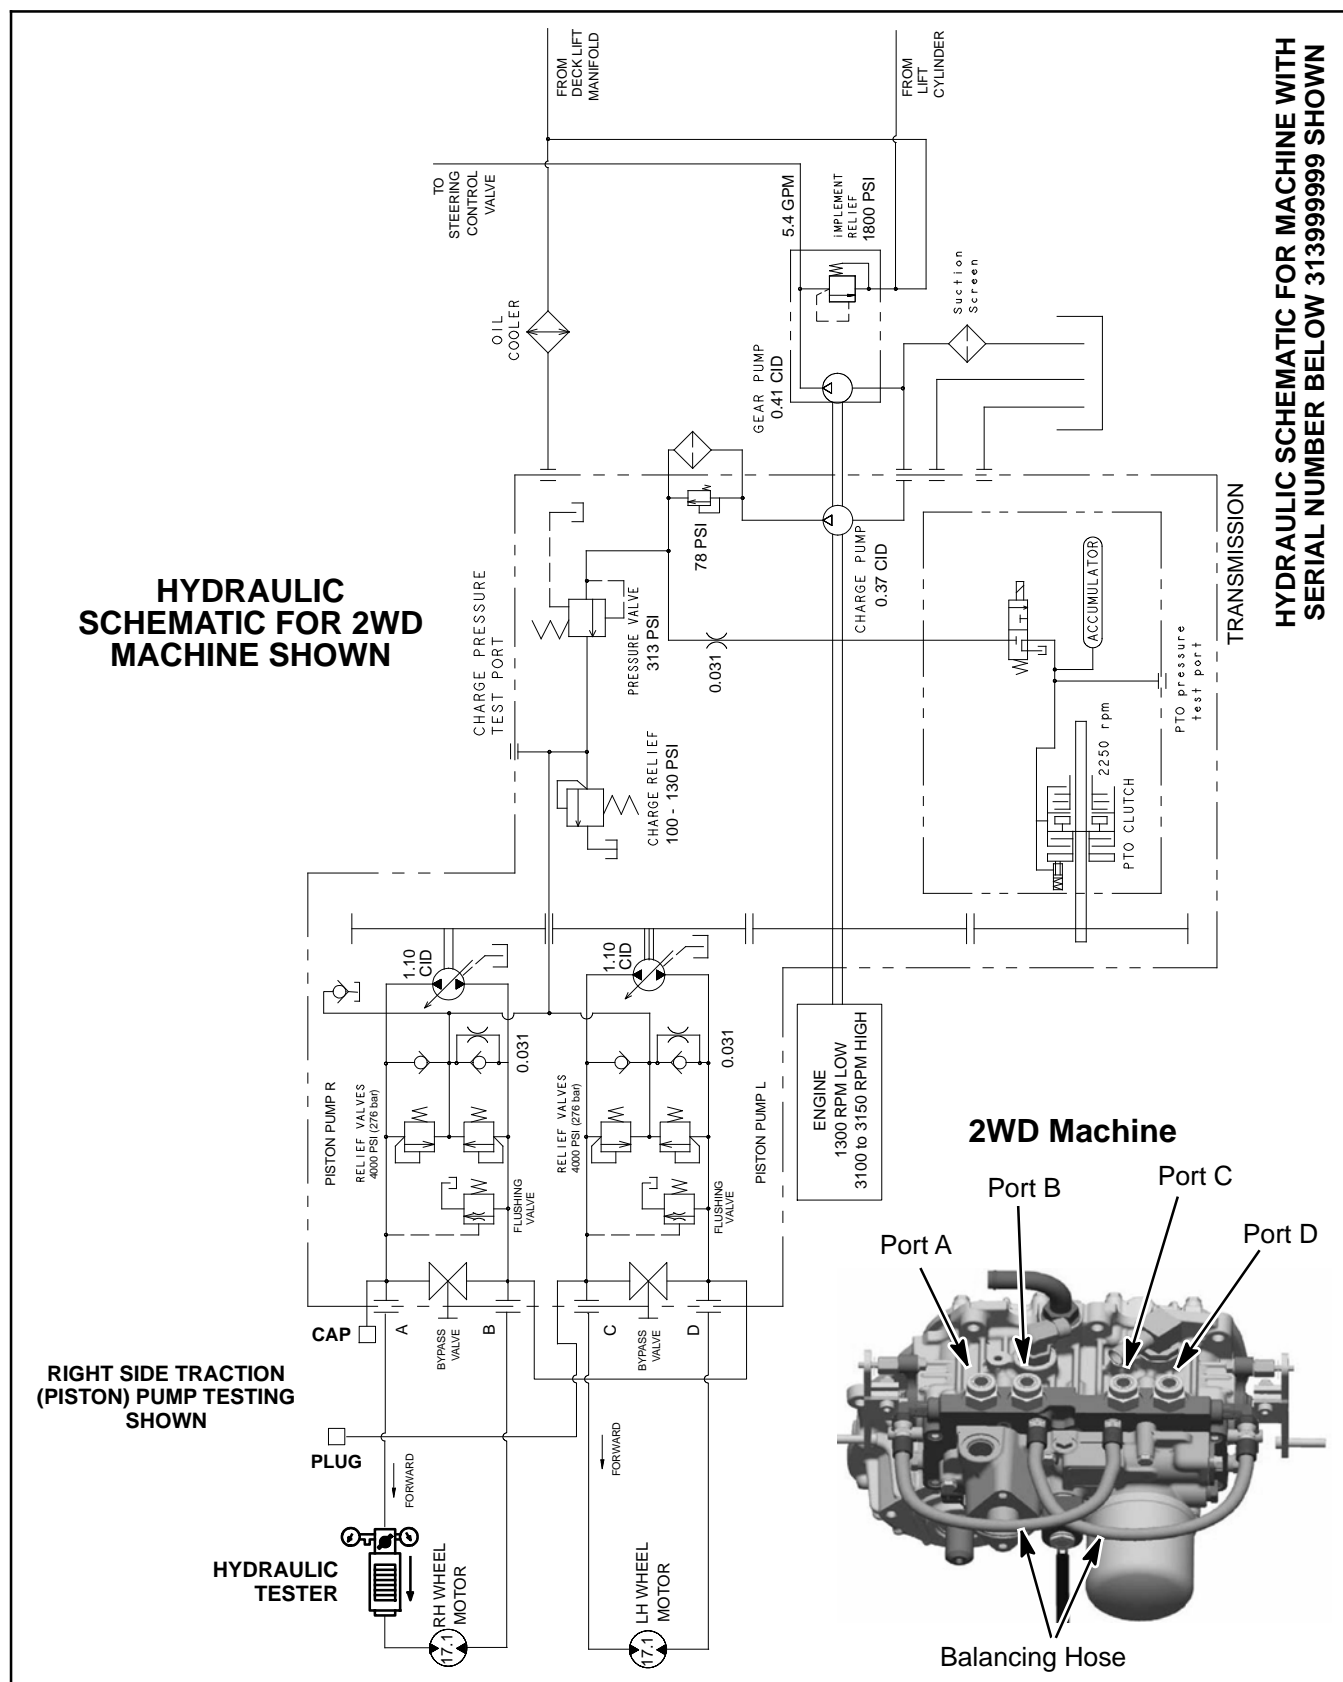

Figure 31
5. Thoroughly clean area surrounding traction circuit hoses on top of transmission (Fig. 31 or 32). Determine which piston pump is to be tested.
6. Disconnect hydraulic hose from transmission pump outlet fitting for piston pump to be tested (Fig. 31 or 32):
8. Disconnect balancing hose from transmission fitting closest to transmission pump outlet fitting for pump to be tested (Fig. 31 or 32). Install steel cap on fitting and steel plug in balancing hose.